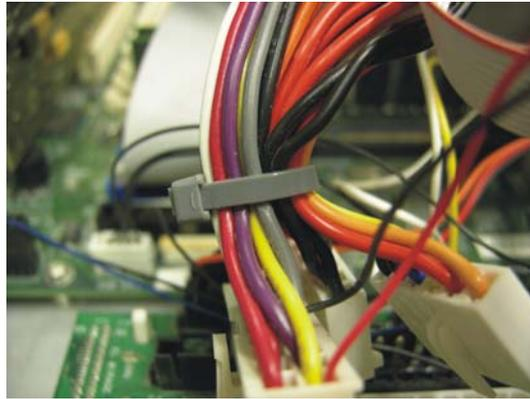

Figure 6-8. Tie Wrapping the Cables
- 28 Install tie wraps around W33/W1 and W35 as shown in Figure 6-8.